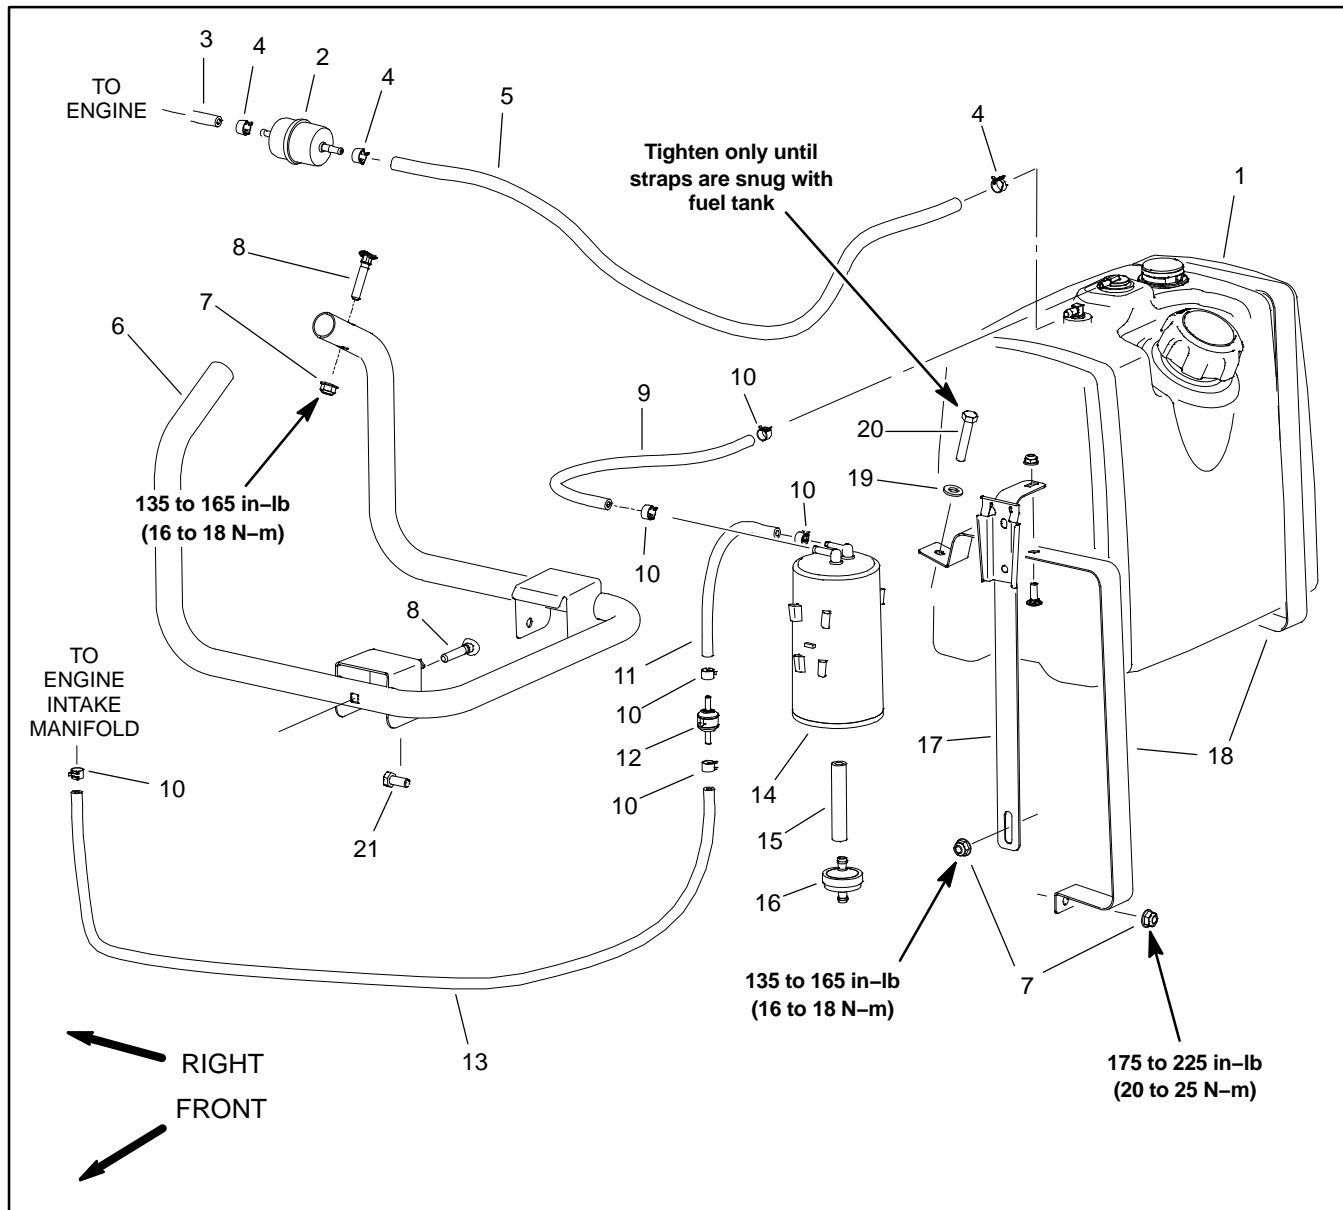

Figure 7
Fuel Tank Removal (Fig. 7)
Fuel Tank Installation (Fig. 7)
3. Replace fuel evaporative control system components as needed (Fig. 7 and 9). Note hose routing and location of clamps and cable ties.